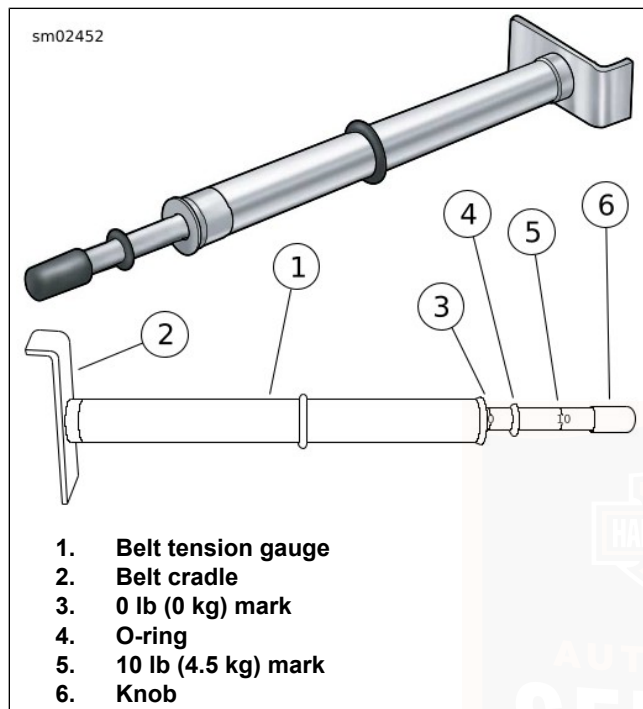

Figure 56. Belt Tension Gauge
2. See Figure 56. Obtain BELT TENSION GAUGE (PART NUMBER: HD-35381-A).